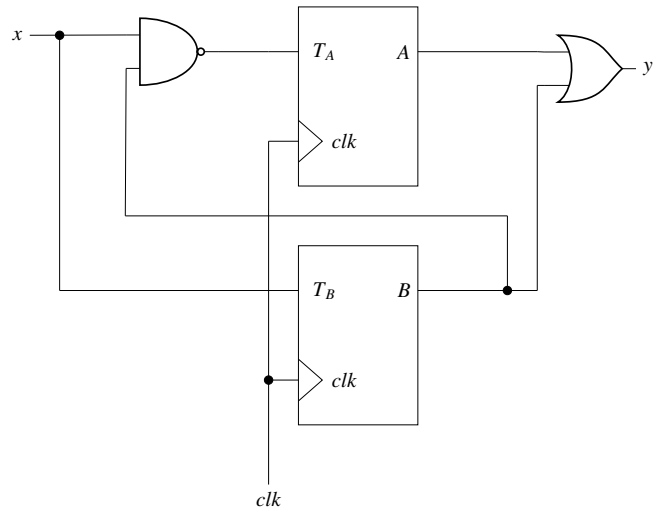

Fig. 5.30
31. Two T-flip flops are interconnected as shown in Fig. 5.30. The present state of the flip flops are:  $A = 1, B = 1$ . The input  $x$  is given as 1, 0, 1 in the next three clock cycles. The decimal equivalent of  $(AB_y)_2$  with  $A$  being the MSB and  $y$  being the LSB, after the 3rd clock cycle is \_\_\_\_\_